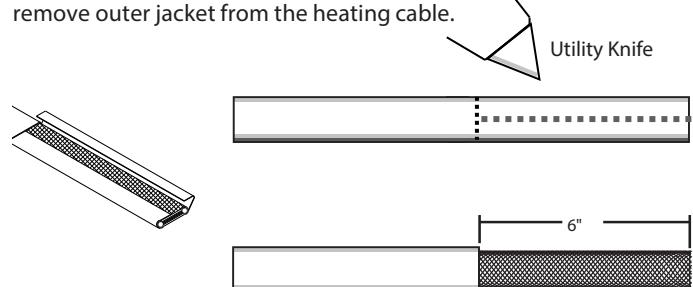

Figure 2.
2. Prepare the heating cable for termination (see figure 2). Start by making a mark 6.0" from end of cable. Remove the outer jacket by lightly cutting completely around the jacket along the mark made. Next being careful not to cut the metal braid or inner jacket, cut along the center of the cable as shown below then bend the cable to break and remove outer jacket from the heating cable.